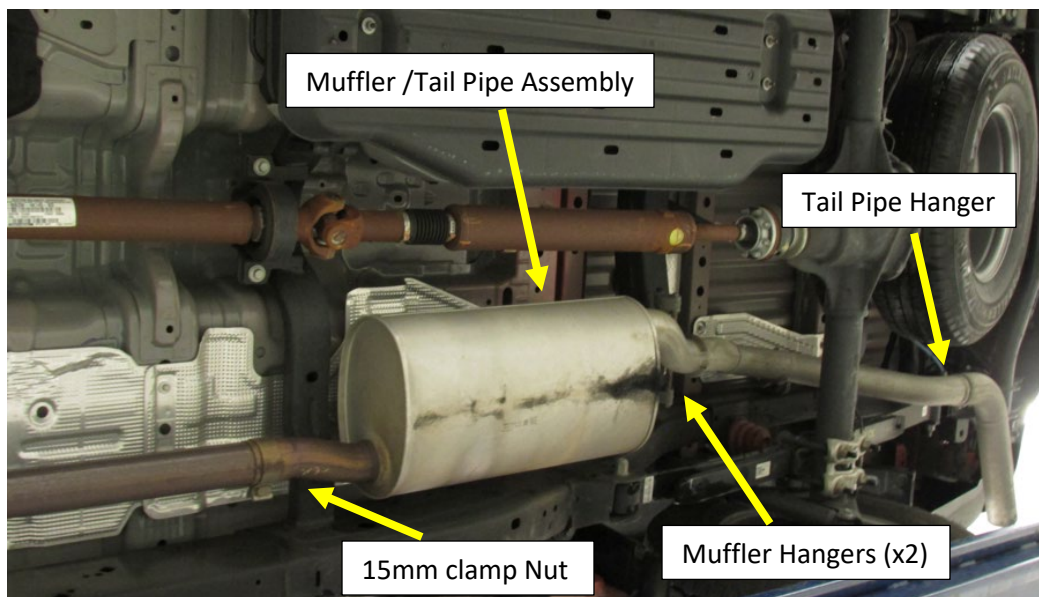

Figure.1
1. Loosen the 15mm nut at the clamp on the Muffler inlet pipe. **Fig. 1**
3. Remove the 10mm bolt at the tail pipe hanger- isolator assembly on the right rear frame rail. **Fig.1**